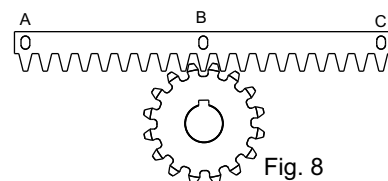
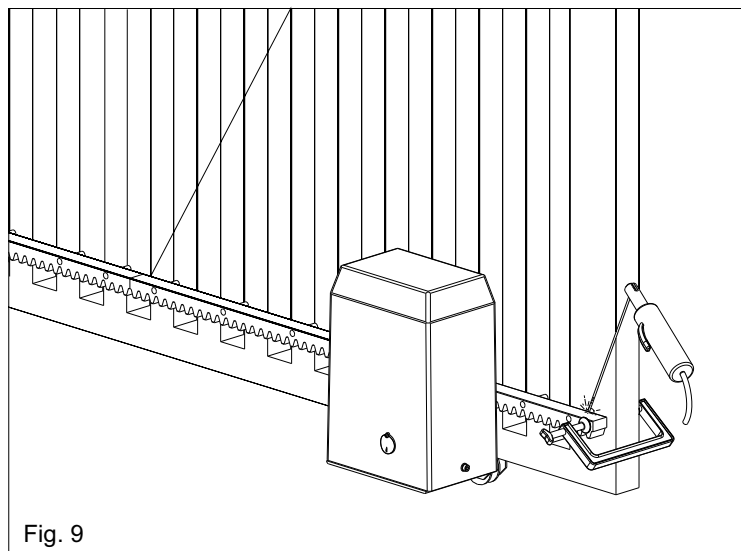

Fig. 8
Fig. 9
5.3. Lay the section of rack on the pinion of the operator as in Fig. 8 so that it results parallel to the pavement guide of the gate and tack weld the central bolt B to the gate (Fig. 9). Manually slide the gate to set the bolt C close to the pinion and tack weld them; repeat with bolt A.